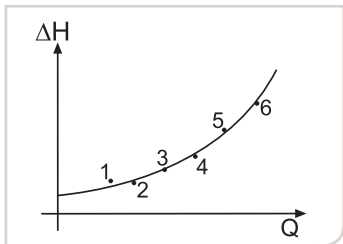

Fig. 7.3.2a Process curve
Process curve - this specifies the connection between the total pressure drop ( $\Delta H$ ) in the process plant and the capacity (Q) (see fig. 7.3.2a).